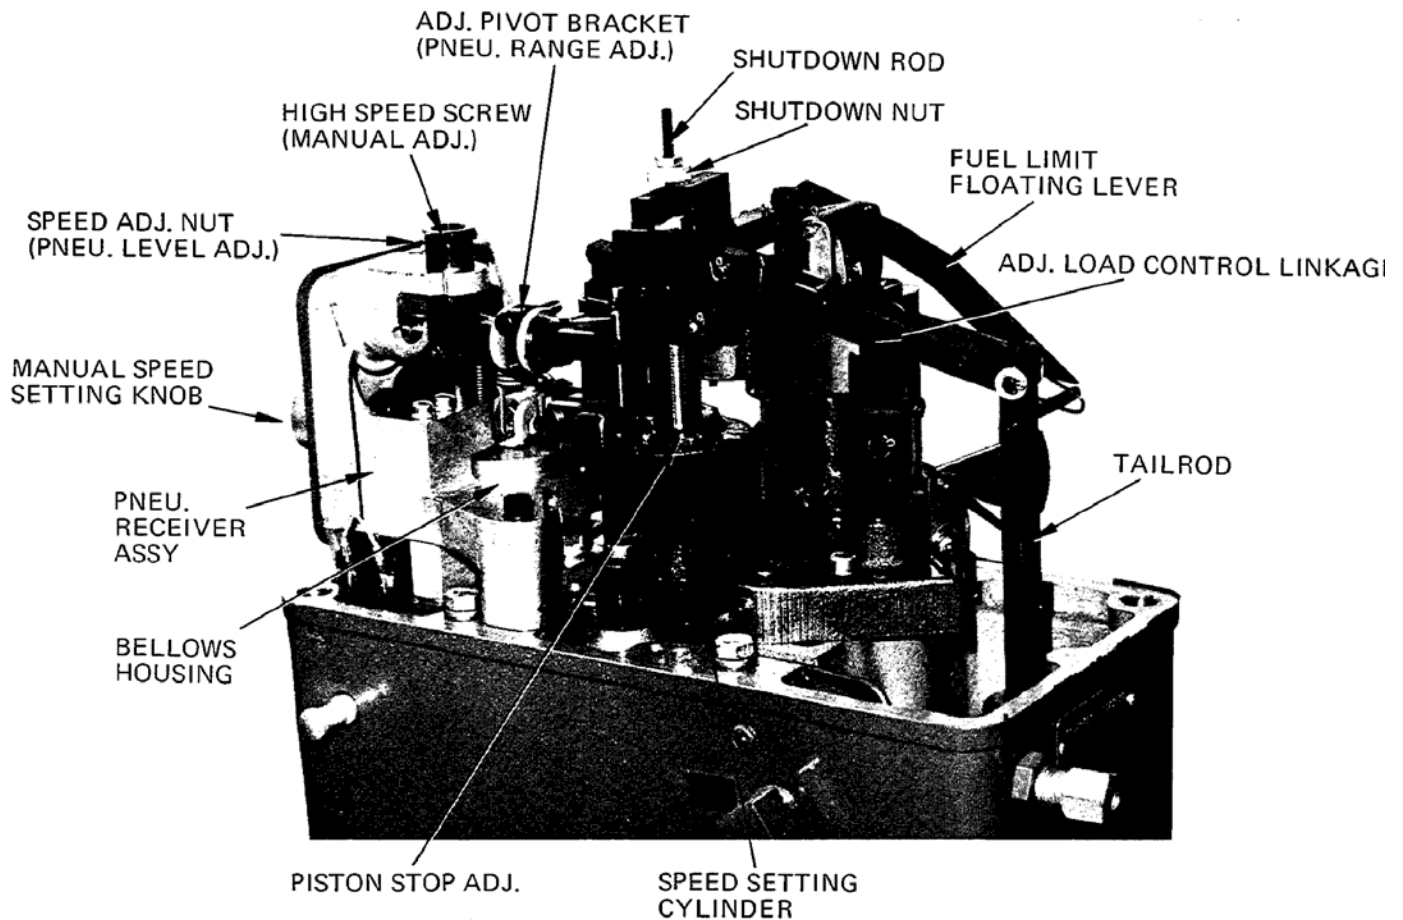

Figure 3-2. Left Side View of Governor with Cover Removed
(Figure 3-2)
- b. Turn speed adjusting nut (Figure 3-2) on speed setting screw as required (ccw to increase) until the required low speed is reached at minimum control air pressure.